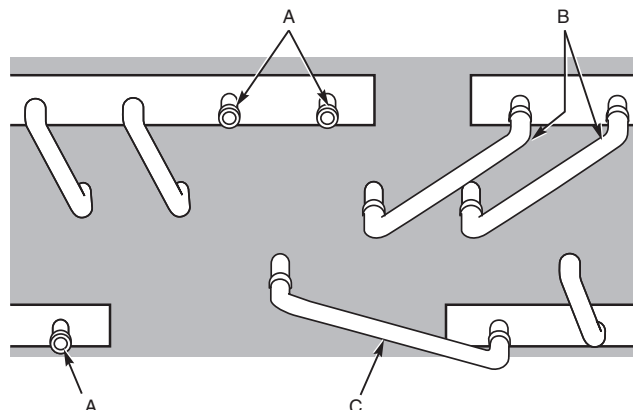

Fig. 7 — Parts Added to 09DK020,024 Unit (To Obtain 67/33% Circuiting)
- a. Cap the open stub tubes on the left headers, where two are located on the gas header, and one on the liquid header. See Fig. 7, Item A.
- b. Insert both $3\frac{5}{8}$ -in. length tube nipples into the open stub tubes located on the right side of the coil to connect the right gas header to the top row of the coil. See Fig. 7, Item B.
- c. Insert the $4\frac{11}{16}$ -in. length tube nipple into the open stub tubes on the right side of the coil to connect the right liquid header to the bottom row. See Fig. 7, Item C.